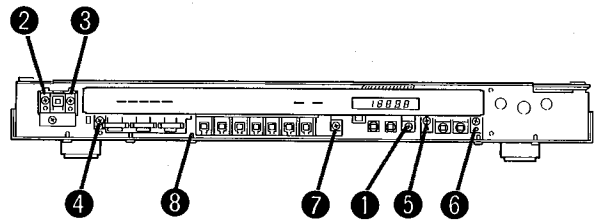

Fig. 6
3. Remove the screw 1 in Fig. 6.
3. Remove screws 2 and 3 in Fig. 6 and then remove PCB-4.
3. Remove screws 4 to 6 in Fig. 6.
3. Remove the screw 7 in Fig. 6.
4. Remove the actuator 8 in Fig. 6 and then remove PCB-8.